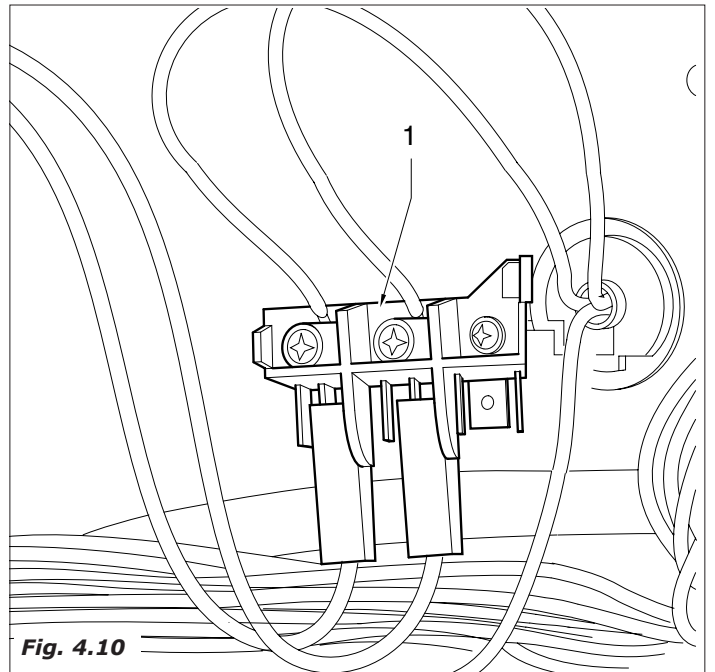
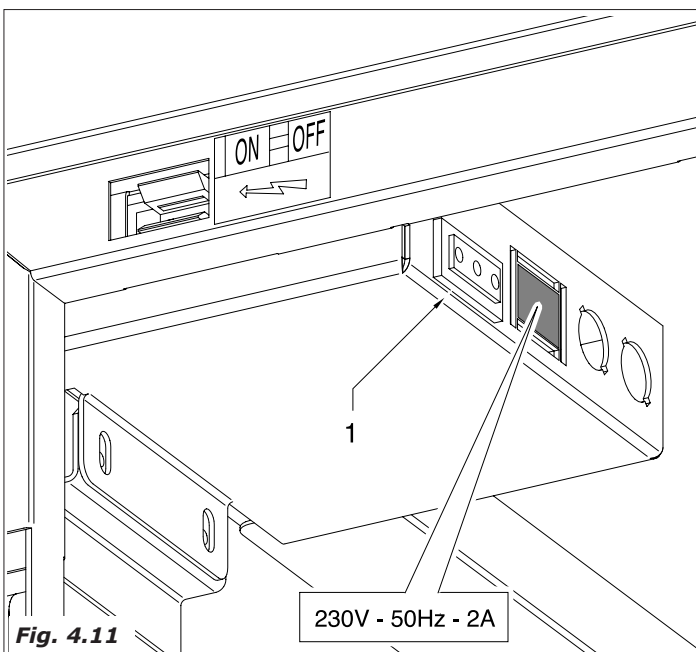

Fig. 4.10
Fig. 4.11
The clamp of the power cable junction box remain under tension (Fig.4.10-pos.1) as well as the service switch inside the distributor. (Fig.4.11-pos.1).